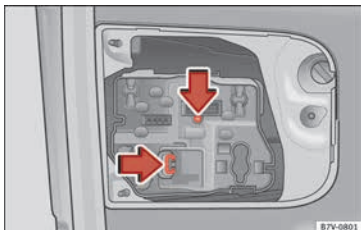

Fig. 113 On the rear lid: remove the bulb-holder.
4. Press on the attachment tabs in the direction of the arrow » Fig. 113 and pull out the bulb holder.